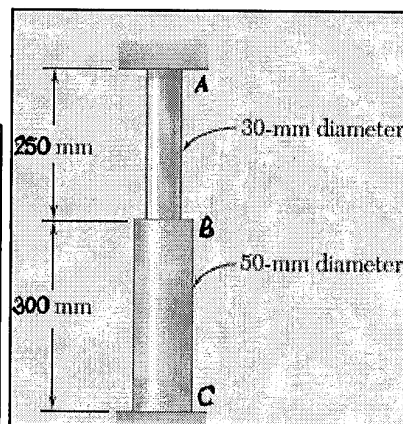

Fig. Q2
**Q2.** A rod (**Fig. Q2**) consisting of two cylindrical portions  $AB$  and  $BC$  is restrained at both ends. Portion  $AB$  is made of steel ( $E_{st} = 200$  GPa,  $\alpha_{st} = 11.7 \times 10^{-6}/^\circ\text{C}$ ) and portion  $BC$  is made of brass ( $E_{br} = 105$  GPa,  $\alpha_{br} = 20.9 \times 10^{-6}/^\circ\text{C}$ ). Knowing that the rod is initially unstressed, determine the maximum stress developed in the rod when there is a temperature rise of  $25^\circ\text{C}$ .